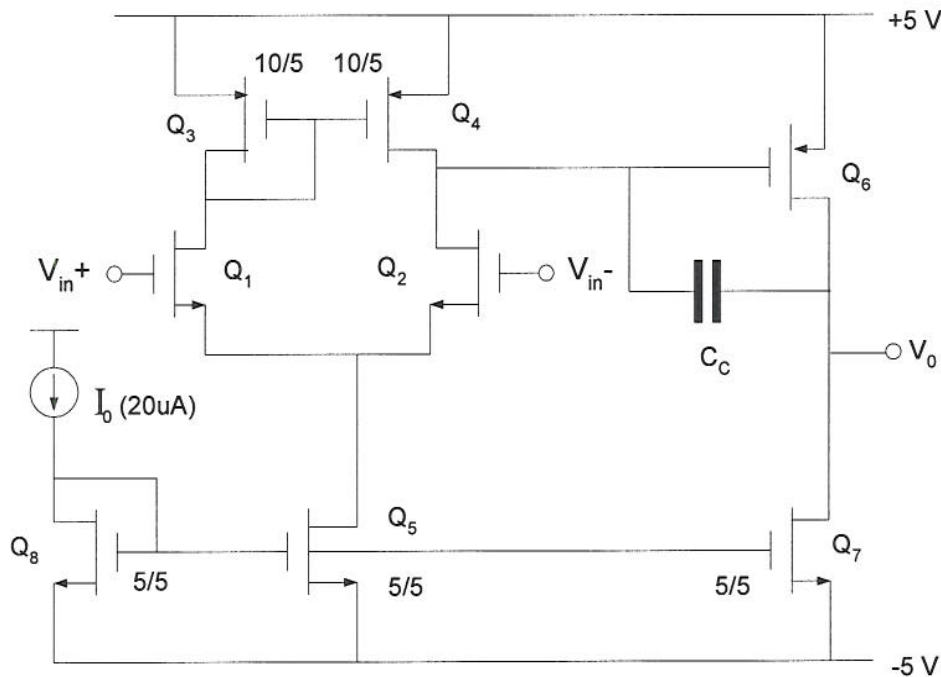

Figure 5
5. Figure 5 shows a partially-designed two-stage CMOS op-amp required to give a voltage gain of approximately 80 dB, a slew-rate of $5 \text{ V}/\mu\text{s}$ and a gain-bandwidth product of 3 MHz.